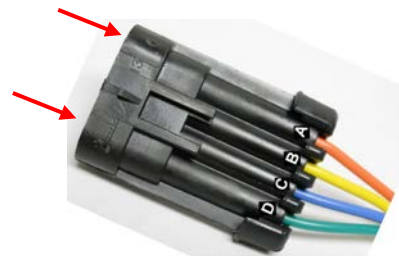

Figure 1
**See Figure 1.** This will provide power to the encoder.